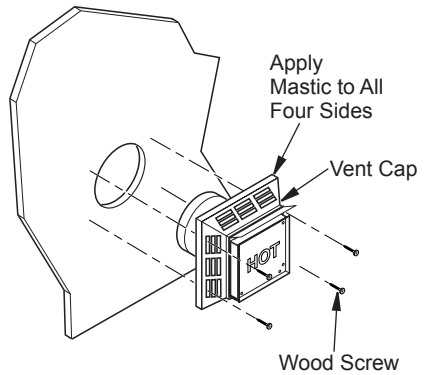

Figure 10 - Installing Horizontal Vent Cap (Noncombustible Exterior)
6. **Noncombustible Exterior Wall:** Position horizontal vent cap in center of 8 1/2" round hole and attach to exterior wall with four wood screws provided. Before attaching vent cap to exterior wall, run a bead of non-hardening mastic (pliable sealant) around outside edges to make a seal between it and outside wall (see Figure 10, page 12).